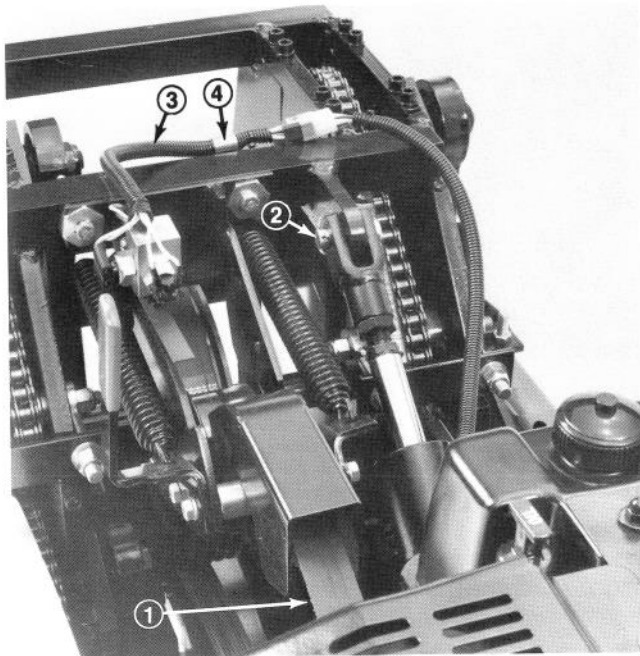

Figure 47
4. Remove the coring head drive belt from the engine pulley (Fig. 47).
7. Remove hair pin cotter from lift cylinder pin connected at coring head (Fig. 47), and remove pin.
8. Remove nut securing wire harness clamp to chassis (Fig. 47).